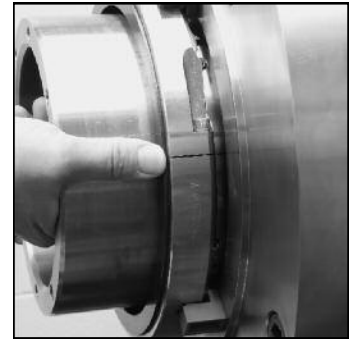

Figure 5
5. Slide the mating ring adapter assembly on the shaft toward the seal chamber until the setting spacers contact the seal chamber face. Figure 5.